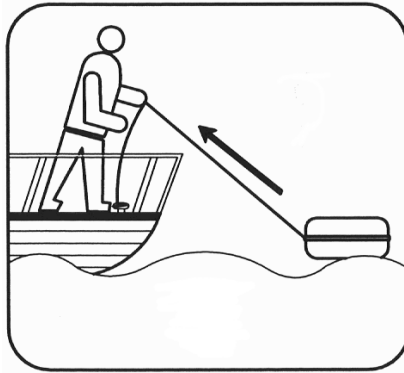

FIGURE 4
8. Begin pulling out the remaining painterline packed in the raft package. Extend it until taut and tight. This will require pulling out about 36 feet (11 meters) of line (See Figure 4).